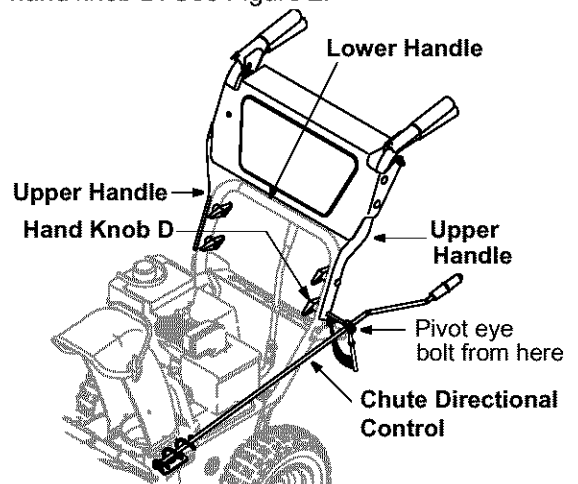

Figure 2
7. Remove the hand knob on the eye bolt and pivot eye bolt in the direction shown in Figure 2. Insert the eye bolt into the lower hole of the left upper handle and the lower handle respectively. See Figure 2.
8. Place cupped washer, with the concave side against the handle, on the eye bolt and secure with the hand knob D. See Figure 2.